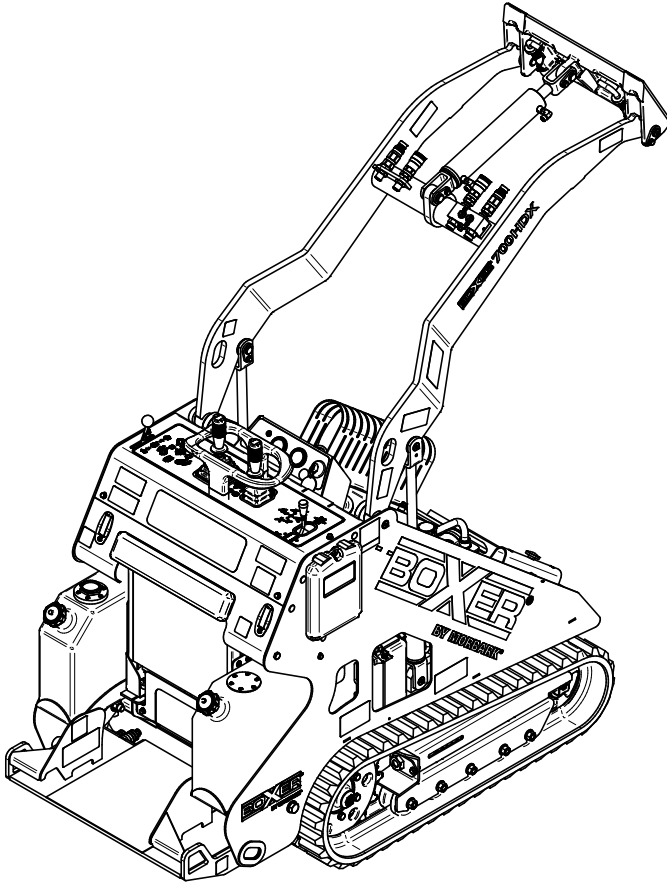

Figure 4-20 Battery and Connections
- Check the battery hold down clamp (Items 4 and 6, Figure 4-20) to make sure that the battery is being held securely to the machine.